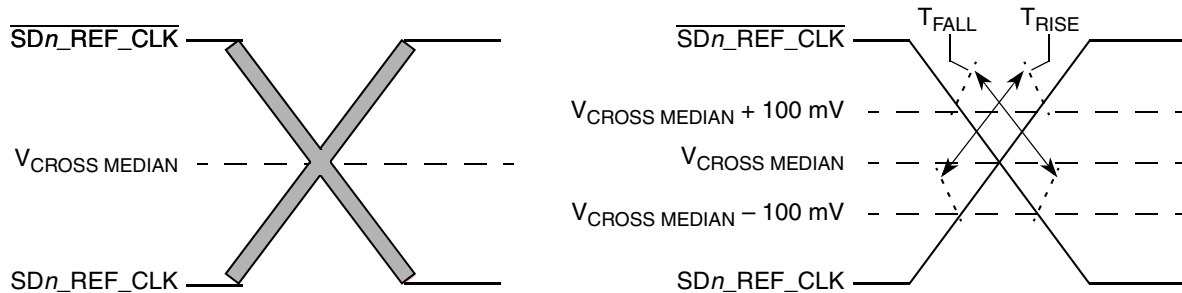

Figure 50. Single-Ended Measurement Points for Rise and Fall Time Matching
- 4. Matching applies to rising edge rate for SDn_REF_CLK and falling edge rate for SDn_REF_CLK . It is measured using a 200 mV window centered on the median cross point where SDn_REF_CLK rising meets SDn_REF_CLK falling. The median cross point is used to calculate the voltage thresholds the oscilloscope is to use for the edge rate calculations. The rise edge rate of SDn_REF_CLK should be compared to the fall edge rate of SDn_REF_CLK , the maximum allowed difference should not exceed 20% of the slowest edge rate. See Figure 50.